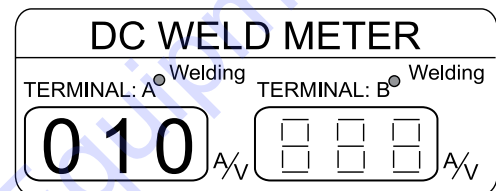

Figure 28. DC Weld Meter (Countdown)
10. The DC welding meter will display the pre-heating countdown time value. The example shown in Figure 28 indicates 10 seconds before engine cranking can begin.